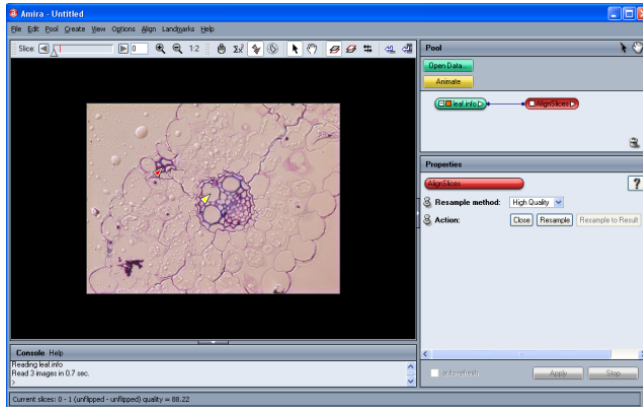

Figure 2.26: The figure shows how the landmarks should be set in the tutorial.
- Place the landmarks as shown in Figure 2.26. Make use of the double-click method.